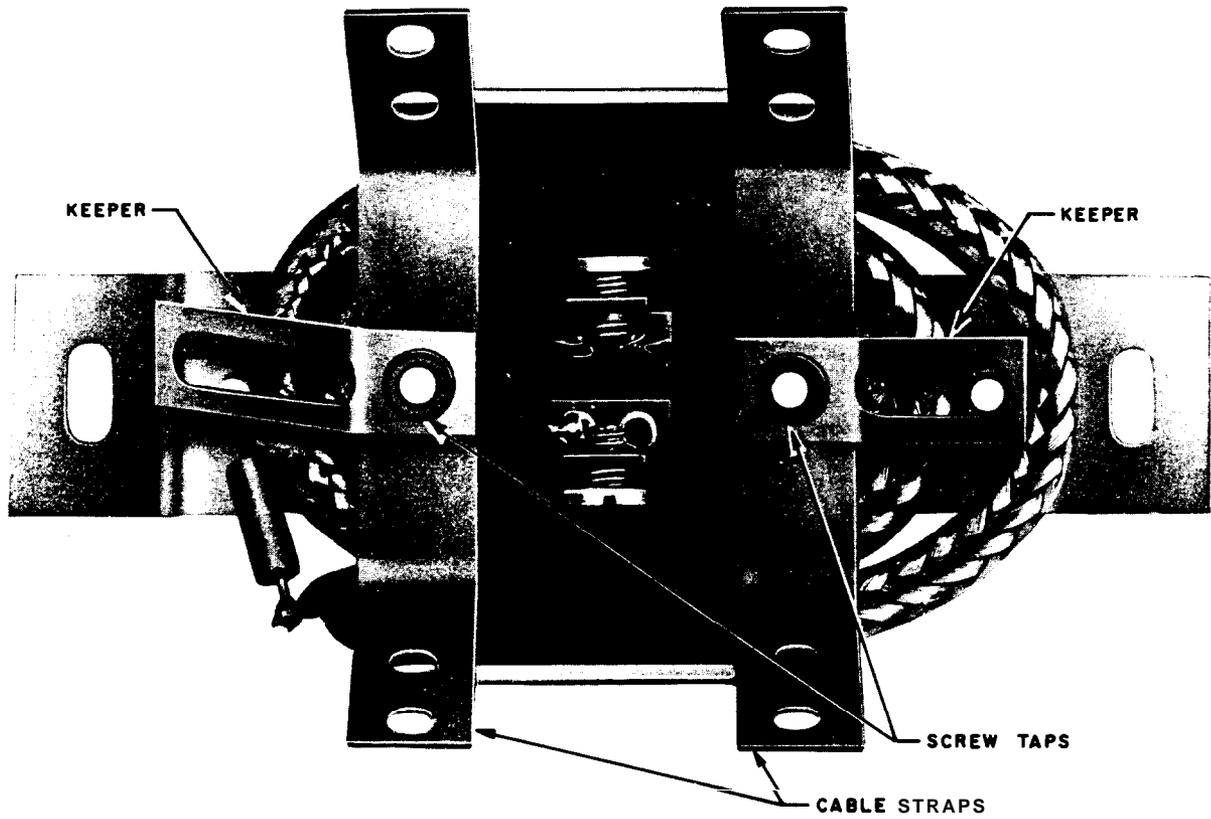

Fig. 3 — SKL 964-16U Jack, Rear View
3.05 Cables may be formed from either or both ends of jack. It is easier to form two cables from same end. IN and OUT terminals are provided on back of jack (Fig. 3). Connect incoming signal lead to IN terminal. If installation is multi-jack, connect outgoing signal lead to OUT terminal. Strip and attach ends of coaxial cable as follows :